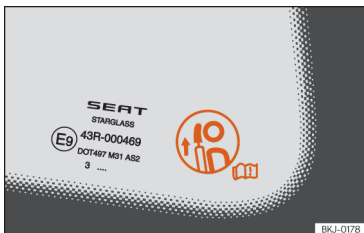

Fig. 87 Head restraint position warning label.
- Under no circumstances should the rear passengers travel while the head restraints are in the non-use position. See the warning label located on the rear side fixed window » **Fig. 87**.